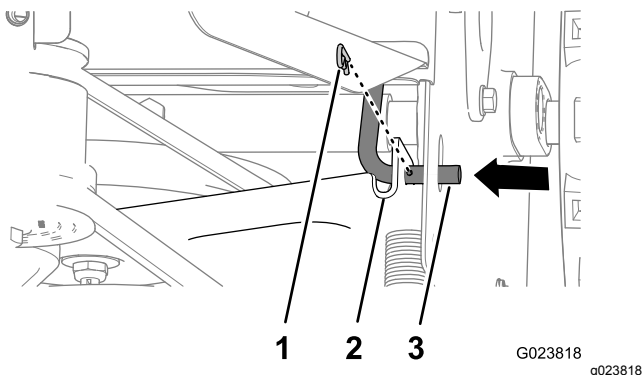

Figure 41
2. Remove the hairpin from the traction-control rod (Figure 41).
3. Remove traction-control rod from the traction-control bracket by moving the rod inward (Figure 41).
5. Move the traction-control bracket rearward and align the hole in the bracket with the traction-control rod (Figure 41).
6. Slip the rod through the bracket and secure the rod with the hairpin (Figure 41).